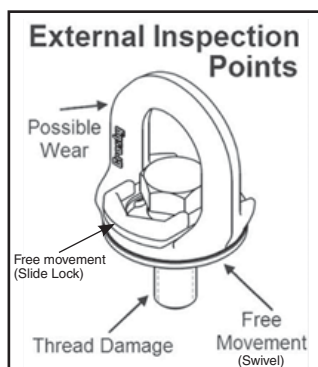

Figure 3
- Regularly inspect Lifting Point parts. (Figure 3)
- Always ensure free movement of bail. The bail should swivel 360 degrees. (Figure 3)